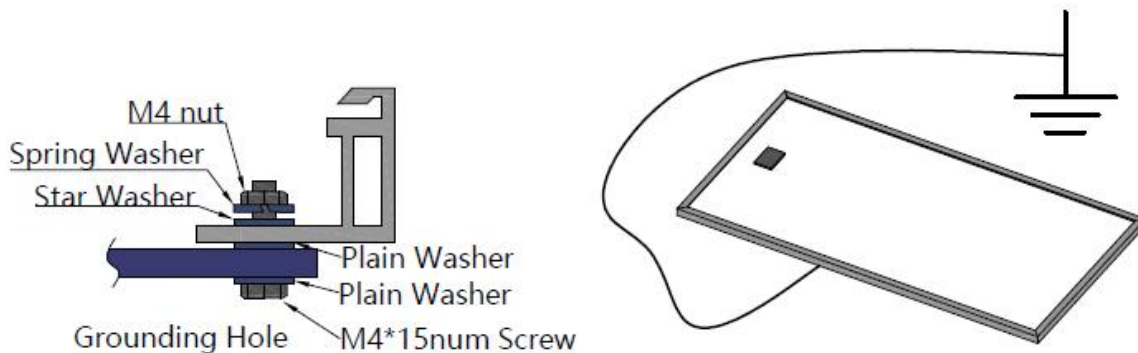

Figure 7: Ground installation of PV modules
- k. The cable of the junction box is defined as X, as showed below in Figure 7. For Solarever standard module, X is 450 mm or 1200 mm; and for customized module, X can be based on your condition. Please take the cable length into consideration before designing the wiring layout. The connector we are using is an MC4 compatible connector , the type is RHC2xyz, and the Manufacturer is Zhejiang Renhe Photovoltaic Technology Co., Ltd. Different type(eg. Different voltage class or different shape) of connector can not be connected together.